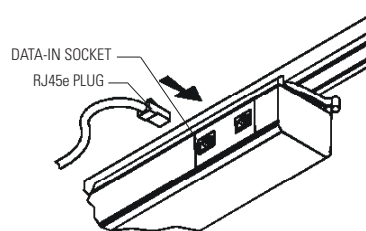

FIG.6
1. Simply connect data cable shielded CAT5 recommended into DMX connector or insert RJ45e jack connector. (Fig.6)